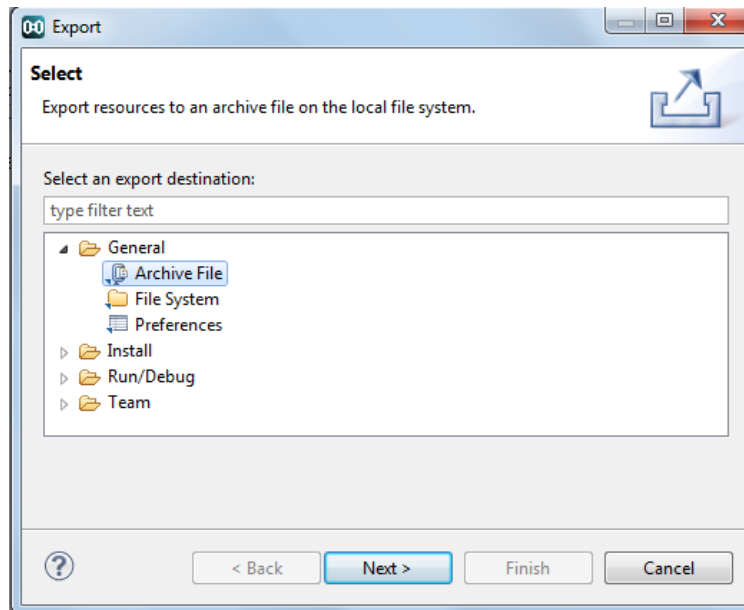

Figure 5.11: Select an output format for the exporting process.
- **Right click** on the target project and select *Export*, followed by *General* and *Archive File*. See Figure 5.11 for more details.